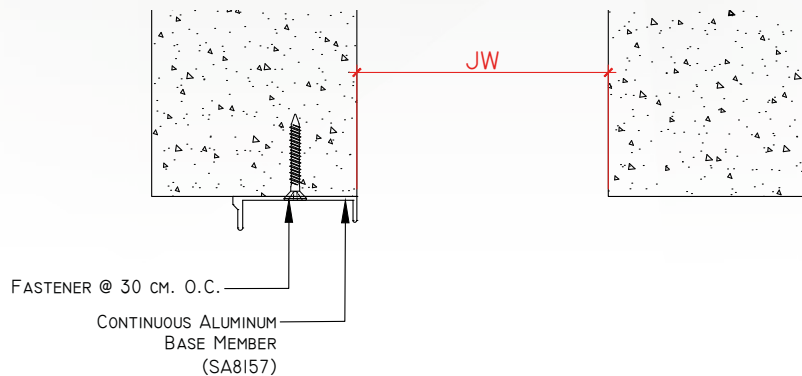

Figure 1.
8. Put the base member back into position on the concrete or masonry substrate, aligning the anchor holes in the base member with the anchor holes in the substrate, and attach the base member to the substrate using the fasteners (Not supplied by GENOTEK). (See figure 1.)